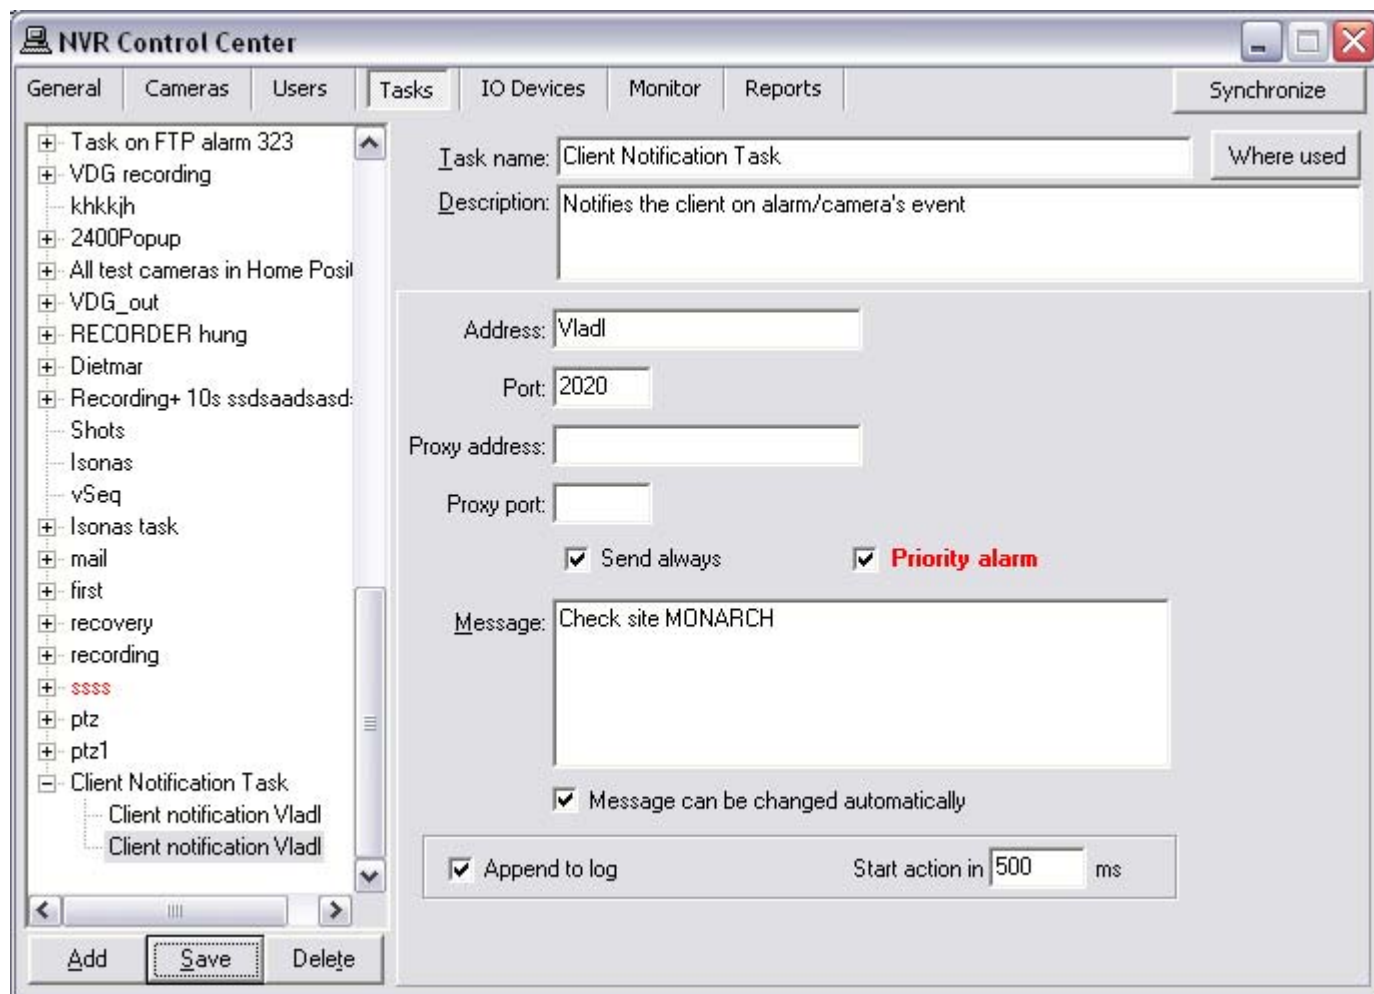

Fig 92. NVR Control Center — Tasks
1. Setup an operator terminal **Address** and **Port number** (Fig 92).